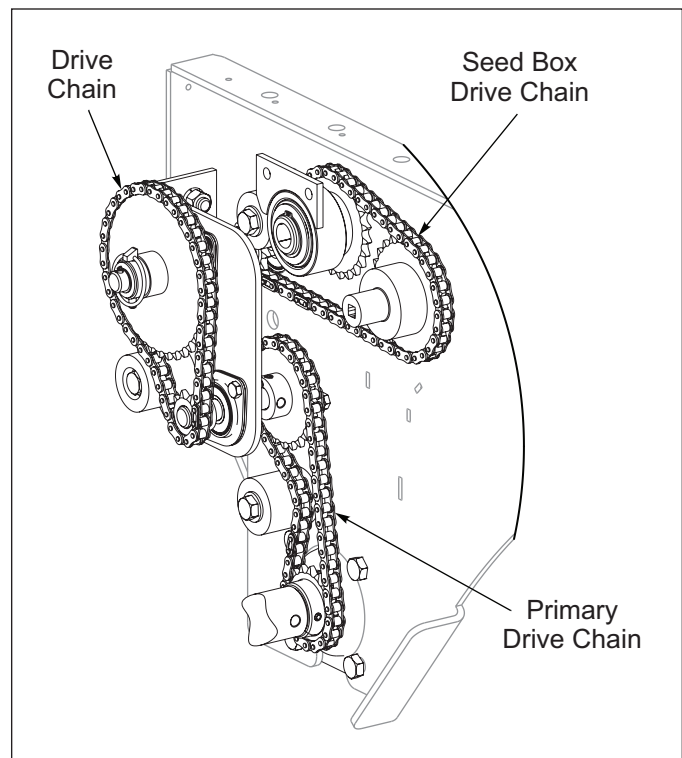

Figure 2-8: Seeder Transmission
5. Remove Primary Drive Chain. **See Figure 2-8.**